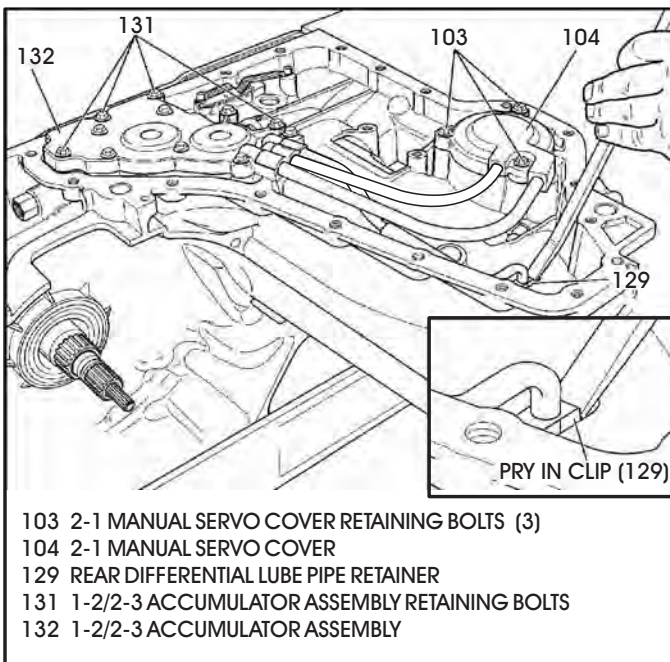

Figure 216
5. Install the 4 accumulator bolts and the 3 servo cover bolts, as shown in Figure 216.
6. Torque the three 2-1 manual servo cover bolts to 24 N·m (18 ft.lb.) (See Figure 216).
7. Torque the four accumulator assembly bolts to 11 N·m (98 in.lb.) (See Figure 216).
8. Pry the final drive lube pipe clip into place, as shown in Figure 216.